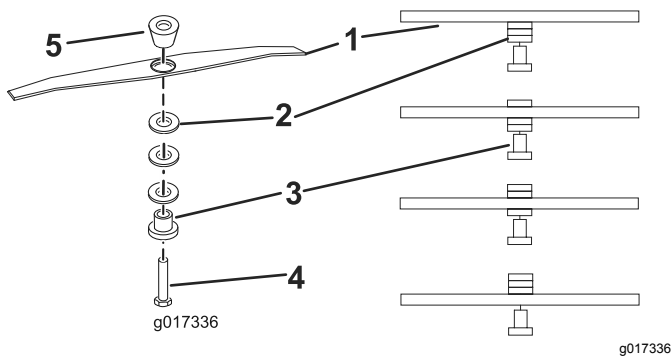

Figure 12
5. Reposition the spacers to the desired height, reinstall the blade retainer and spacers (Figure 12.), and tighten the bolt to 25 N-m (18 ft-lbs).